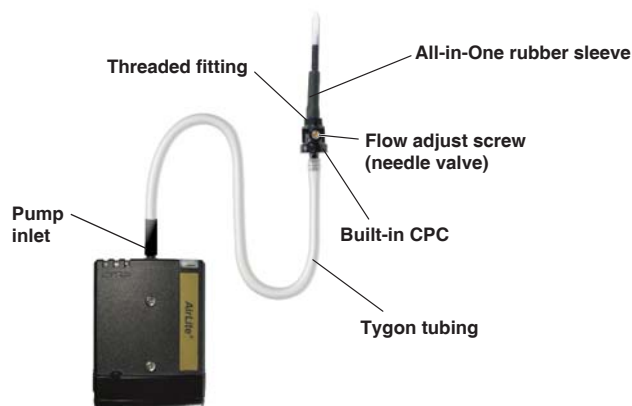

Figure 2. All-in-One Adjustable Tube Holder Connected to AirLite
1. Replace the representative sorbent tube used for calibrating flow with a new unexposed sorbent tube for sample collection. **Note:** Ensure sorbent tube fits snugly in rubber sleeve of the All-in-One before sampling to avoid any air leakage. Two sleeves, each a different inner diameter (ID), are supplied. See Figure 2.